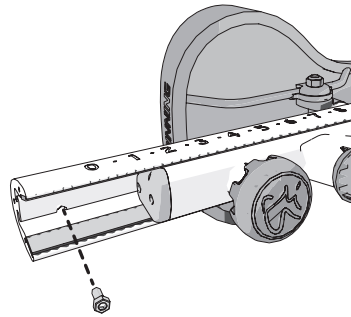

Figure 6
2. Insert one bolt ③ into the underside of the seat slider and fully tighten it to set the travel limit (Figure 6).